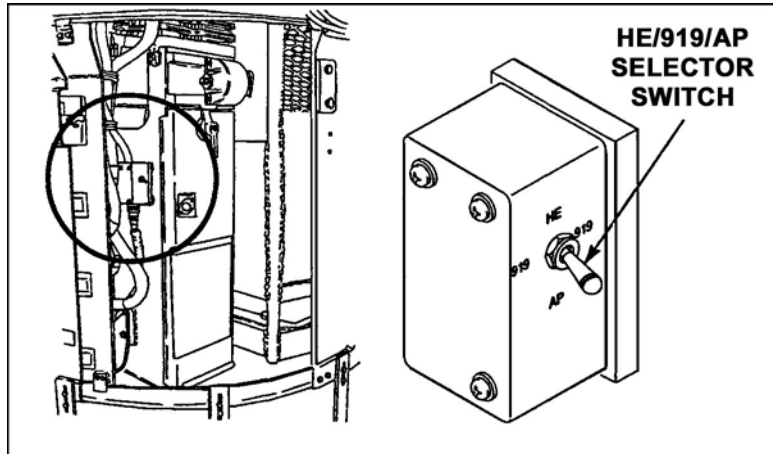

Figure 6. Selector switch.
8. Move the HE-M919-AP ammunition selector switch to the correct position for the ammunition loaded (Figure 6).